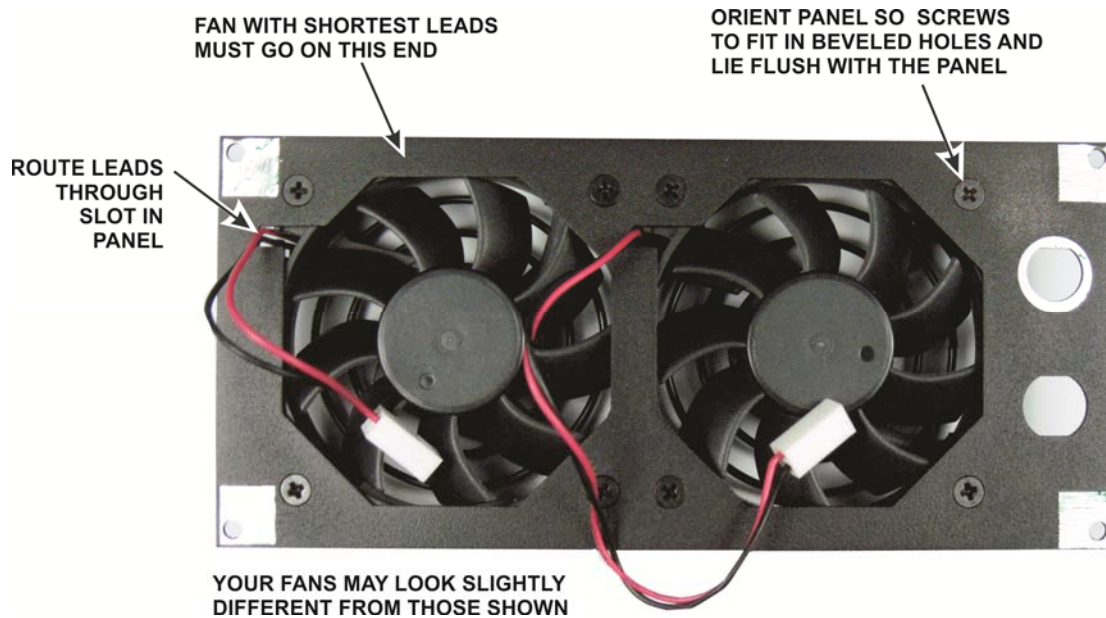

Figure 12. Fan Panel Inside View.
□ Locate the fan panel and mount the fans as shown in Figures 12 and 13 using 4-40 7/8" black flat head screws and acorn nuts. Note that the appearance of the fans in your kit may differ slightly from those shown.